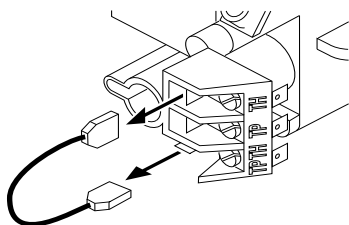

Figure 37 - Disconnecting TH to TPTH Wire
5. Remove wire from TH to TPTH on control valve (see Figure 37).